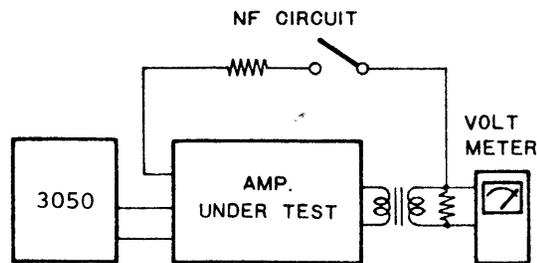

Fig. 6. Measurement of NF (negative feedback) value.
- Connect an output meter across the voice coil of the speaker or dummy load, as shown in Fig. 6, and adjust the 3050 so that the amplifier delivers rated output. Set the gain control on the amplifier, if provided, in the fully clockwise position. Note the amplifier input voltage required.